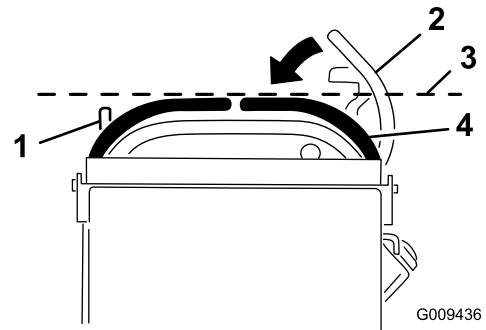

Figure 75
3. Push the right motion control lever down out of locked neutral position (Figure 75).
4. Check if it aligns horizontally with the left motion control lever (Figure 75).